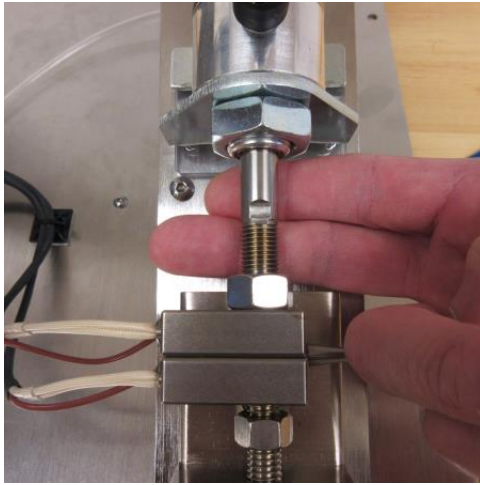

Figure 3.4.7
- Place two fingers under the cylinder shaft and lift until the upper jaw clears the lower jaw. *Figure 3.4.7 and 3.4.8*